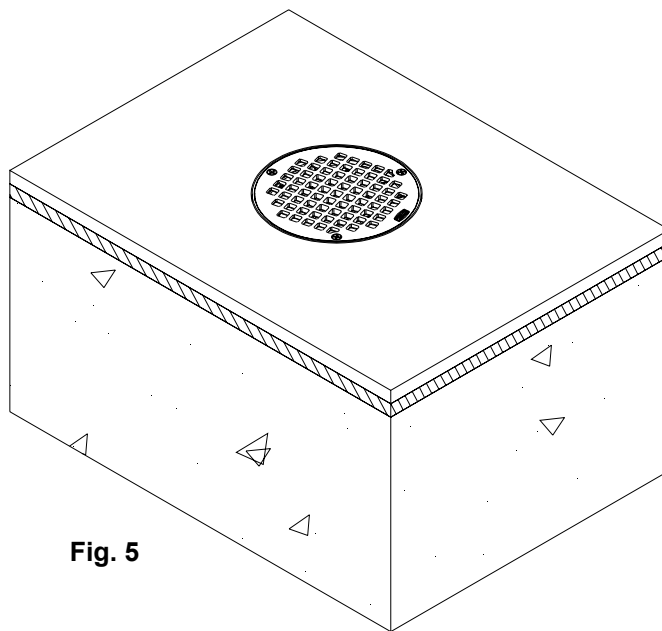

Fig. 5
6. Replace strainer and screws. Fig. 5.